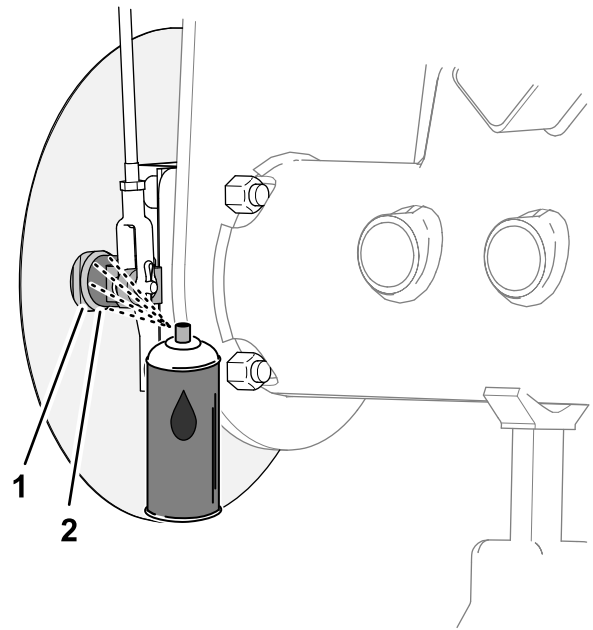
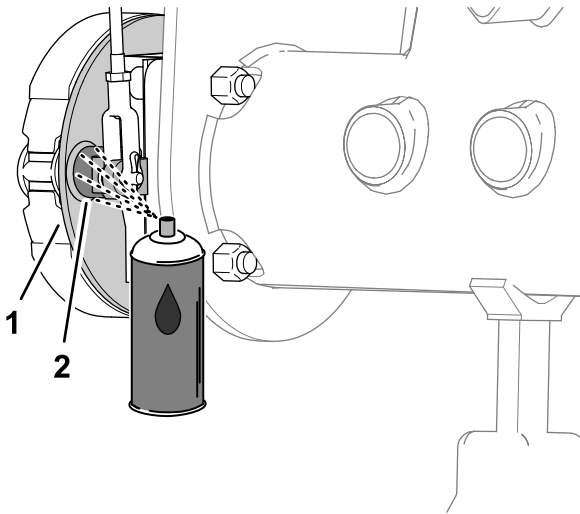

Figure 69
Figure 68
1. At the inboard side of the brake-backing plate (machines without the optional wheel-rim grass shield) or the wheel shield (machines with the optional wheel-rim grass shield), spray penetrating oil between the brake cam shaft and the backing plate (Figure 68 or Figure 69).